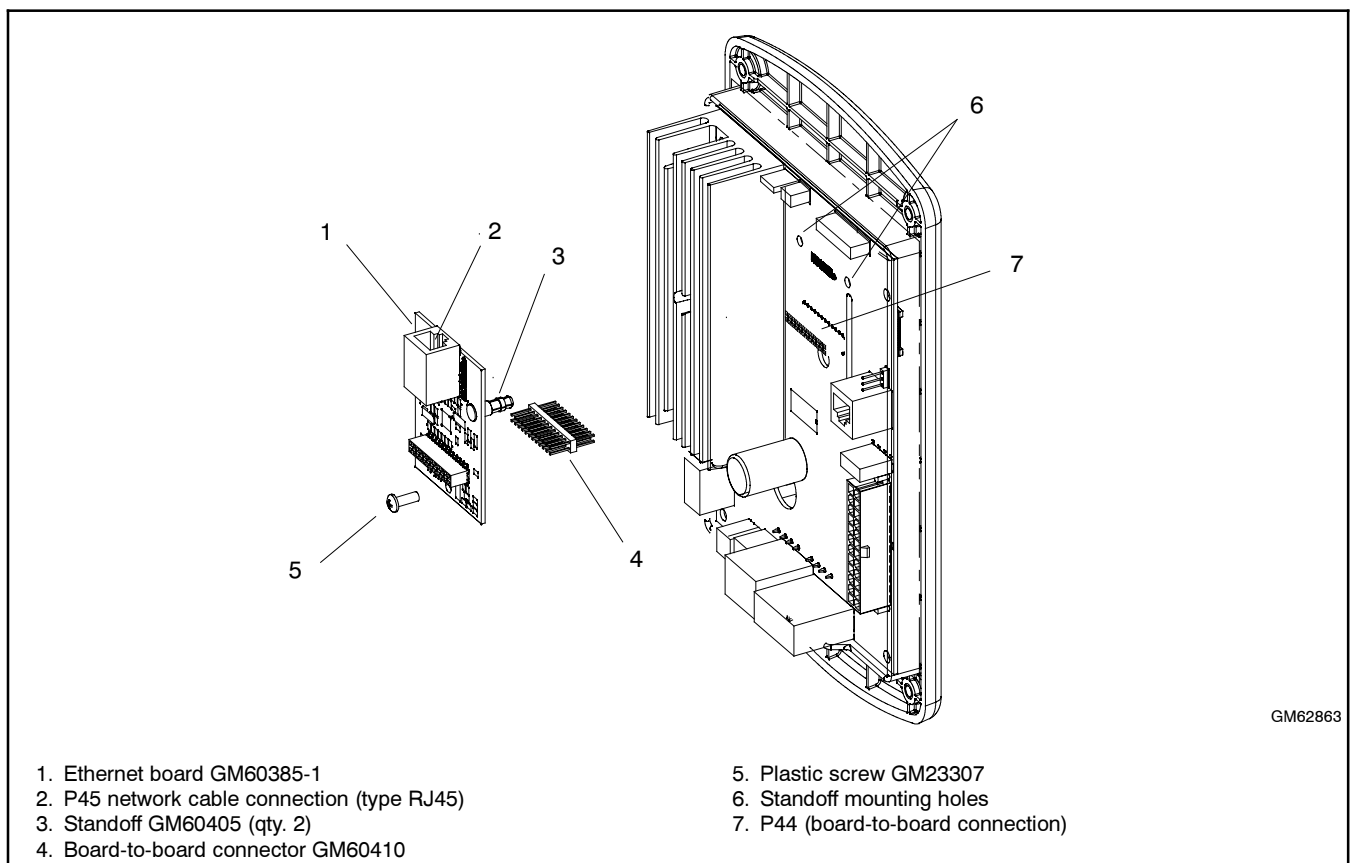

Figure 6 Ethernet Option Board Installation
13. Insert board-to-board connector GM60410 into P44 of Ethernet option board GM60385-1. See Figure 6.
14. Orient the Ethernet option board with the network connector P45 pointing toward the top of the controller as shown in Figure 6.
21. Connect the network cable to P45 on the Ethernet board. See Figure 6.
23. Mount the controller assembly onto the junction box using the four (4) screws removed in step 11.